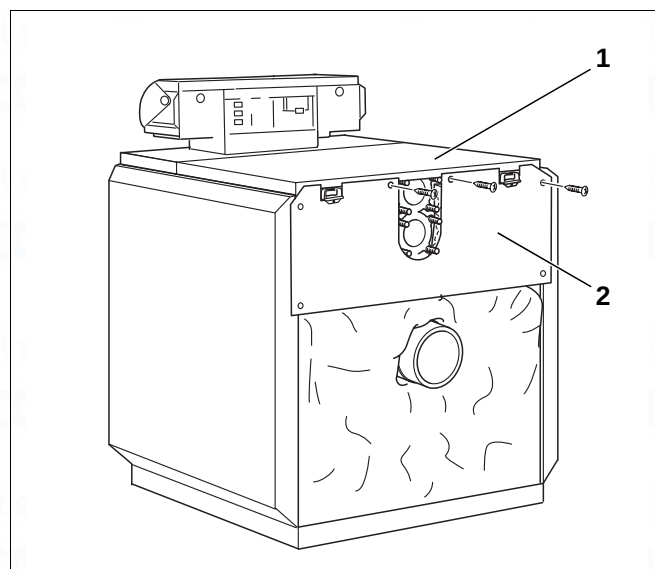

Fig. 39 Installation – upper boiler rear panel
- Screw the upper boiler rear panel (Fig. 39, [2]) to the rear of the hood (Fig. 39, [1]) and the side panels.